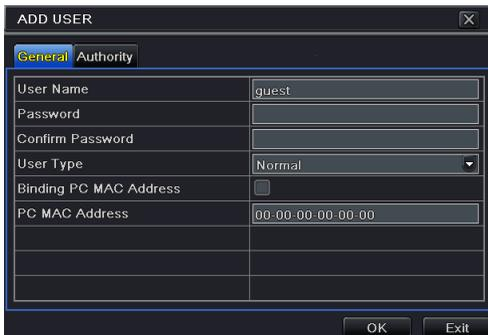

Fig 4-30 Add-General
Step 2: Click Add button to display a dialog box as Fig 4-30: